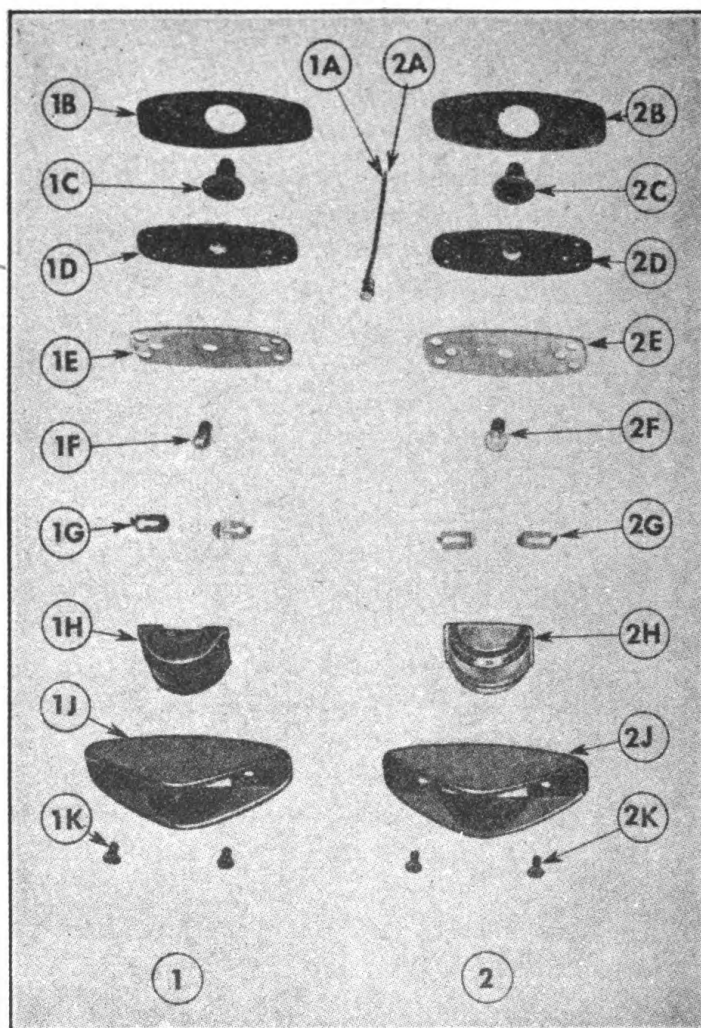

FIGURE 53. CLEARANCE LIGHTS—(1) BLACKOUT—(2) STANDARD
3. **CLEARANCE LAMPS.**—Servicing procedure on both standard clearance lamps and blackout clearance lamps is identical (Figure 53).
a. *Replacing lens.*—(1) Turn the two screws holding lens housing to lamp about three-quarters of the way out and lift housing off.